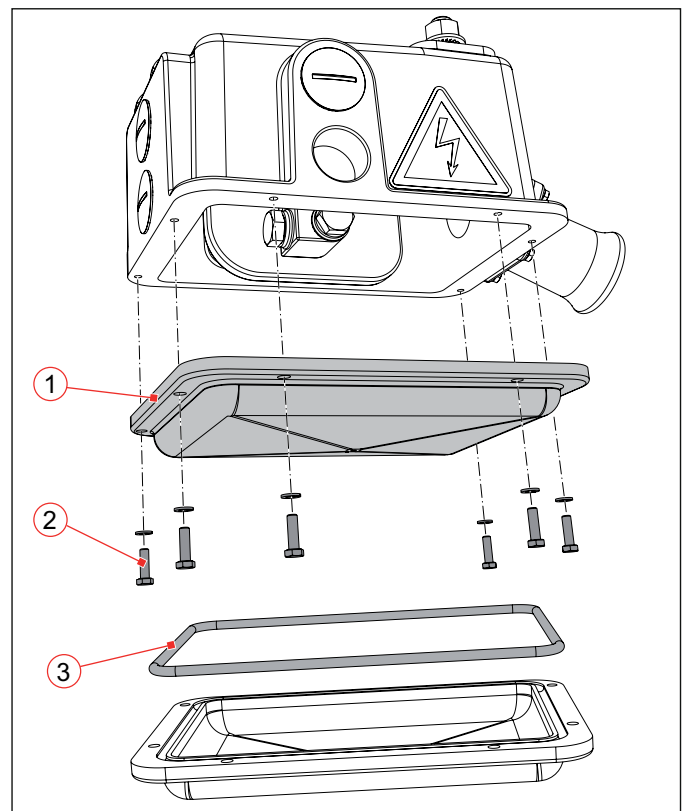
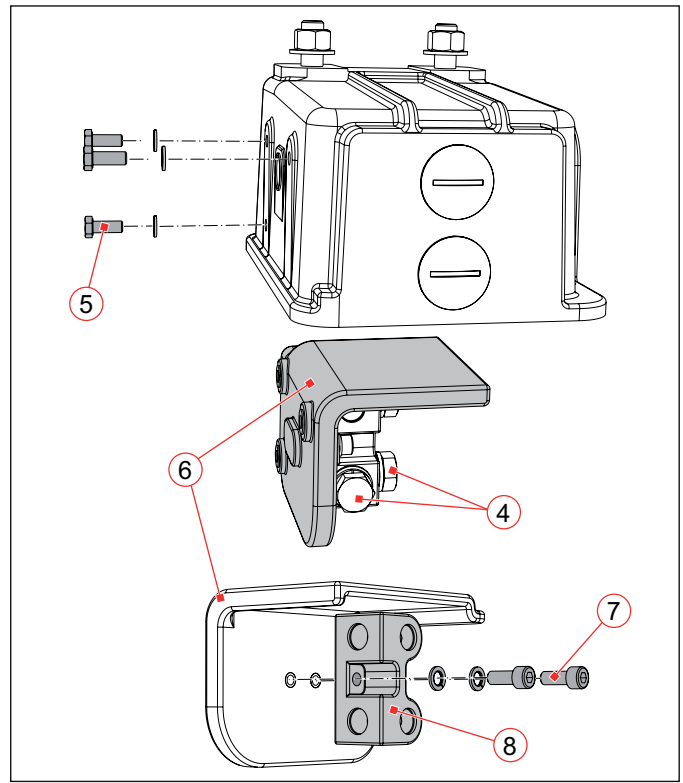

Fig. 53: Replace cover seal (3) of the cable junction box
Fig. 54: Replace the clamping piece carrier (6) and/or the clamping piece (8)
Replace the Seal of the Shell Cover (Fig. 53)
Replace the Clamping Piece Carrier and/or the Clamping Piece (Fig. 54)
- ▶ For replacing the clamping piece carrier and/or clamping piece, release the 6 hexagon screws M8 (Fig. 53/2) on the bottom side of the shell cover (1) of the cable junction box and remove the shell cover.
- ▶ Release the hexagon screws (Fig. 54/4) and disconnect the cables.
- ▶ For dismantling the clamping piece carrier (6), release the 3 hexagon screws M8 (5) on the shell.
- ▶ If only the clamping piece carrier or only the clamping piece has to be replaced, release the two Allen screws M8 (7) and remove the clamping piece (8) from the clamping piece carrier (6).
- ▶ Replace the clamping piece carrier (6) and/or the clamping piece (8).
- ▶ Screw the clamping piece (8) with the two Allen screws (7) and spring lock washers to the clamping piece carrier (6). Torque: 10 Nm
- ▶ Screw the clamping piece carrier (6) with the 3 hexagon screws M8 (5) and spring lock washers to the shell. Torque: 10 Nm
- ▶ Connect the cables again with the hexagon screws (4). Torque: 80 Nm
- ▶ Check the seal of the shell cover. If there are damages, replace the seal (for this, see section **“Replace the Seal of the Shell Cover (Fig. 53)”** on page 42).
- ▶ Lubricate the 6 hexagon screws M8 (Fig. 53/2) for the shell cover (1) with low-temperature lubrication grease OPTITEMP TT1.
- ▶ Attach the shell cover (1) with the glued in seal (3) again and screw on with the 6 hexagon screws (2) and spring lock washers.